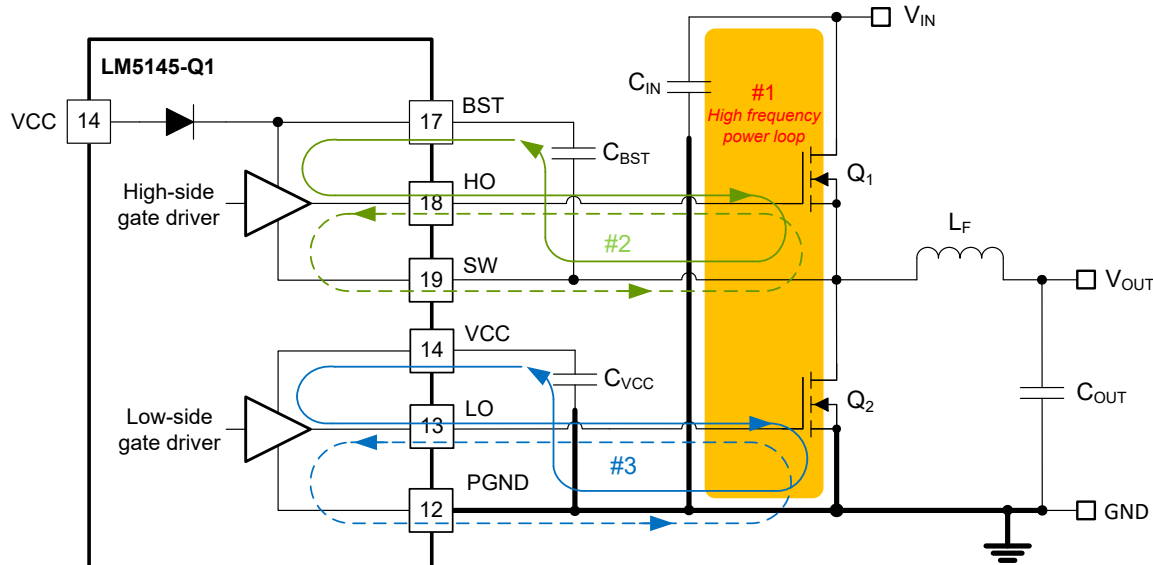

Figure 11-1. DC-DC Regulator Ground System With Power Stage and Gate Drive Circuit Switching Loops
Proper PCB design and layout is important in a high-current, fast-switching circuits (with high current and voltage slew rates) to assure appropriate device operation and design robustness. As expected, certain issues must be considered before designing a PCB layout using the LM5145-Q1. The high-frequency power loop of the buck converter power stage is denoted by #1 in the shaded area of Figure 11-1. The topological architecture of a buck converter means that particularly high di/dt current flows in the components of loop 1, and it becomes mandatory to reduce the parasitic inductance of this loop by minimizing its effective loop area. Also important is the gate drive loops of the low-side and high-side MOSFETs, denoted by 2 and 3, respectively, in Figure 11-1.
- Loop #1: The most important loop to minimize the area of is the path from the input capacitor or capacitors through the high- and low-side MOSFETs, and back to the capacitor or capacitors through the ground connection. Connect the input capacitor or capacitors negative terminal close to the source of the low-side MOSFET (at ground). Similarly, connect the input capacitor or capacitors positive terminal close to the drain of the high-side MOSFET (at V_{IN}). Refer to loop #1 of Figure 11-1.
5. The SW pin connects to the switch node of the power conversion stage and acts as the return path for the high-side gate driver. The parasitic inductance inherent to loop #1 in Figure 11-1 and the output capacitance (C_{OSS}) of both power MOSFETs form a resonant circuit that induces high frequency (> 100 MHz) ringing on the SW node. The voltage peak of this ringing, if not controlled, can be significantly higher than the input voltage. Ensure that the peak ringing amplitude does not exceed the absolute maximum rating limit for the SW pin. In many cases, a series resistor and capacitor snubber network connected from the SW node to GND damps the ringing and decreases the peak amplitude. Provide provisions for snubber network components in the PCB layout. If testing reveals that the ringing amplitude at the SW pin is excessive, then include snubber components as needed.
- Loop 2: high-side MOSFET, Q_1 . During the high-side MOSFET turnon, high current flows from the bootstrap (boot) capacitor through the gate driver and high-side MOSFET, and back to the negative terminal of the boot capacitor through the SW connection. Conversely, to turn off the high-side MOSFET, high current flows from the gate of the high-side MOSFET through the gate driver and SW, and back to the source of the high-side MOSFET through the SW trace. Refer to loop #2 of Figure 11-1.
- Loop 3: low-side MOSFET, Q_2 . During the low-side MOSFET turn-on, high current flows from the VCC decoupling capacitor through the gate driver and low-side MOSFET, and back to the negative terminal of the capacitor through ground. Conversely, to turn off the low-side MOSFET, high current flows from the gate of the low-side MOSFET through the gate driver and GND, and back to the source of the low-side MOSFET through ground. Refer to loop #3 of Figure 11-1.